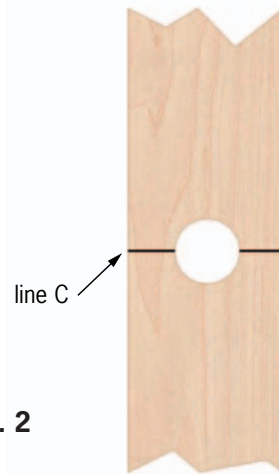

Fig. 2
4. On one slat, drill a hold at the center of line C. (See Fig. 2)